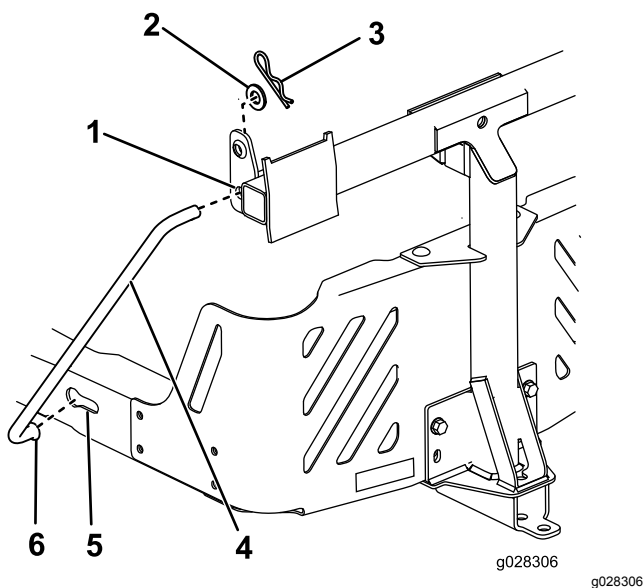

Figure 14
5. Install the bent, flared end of a rod into the keyed slot in the left side of the machine frame, and move the rod rearward to seat it in the frame (Figure 14).
6. Insert the bent ends of the rods into the attachment mount as shown in Figure 14 and secure the end of each rod with a washer and hairpin cotter.